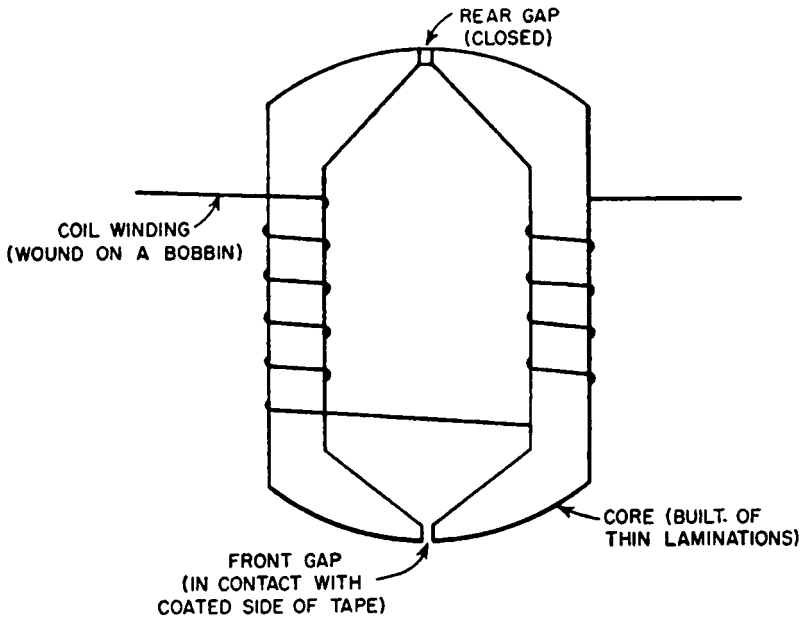

Fig. 6-5. Construction of a tape head.
*Record, playback and erase heads.* A typical tape head, Figure 6-5, consists of a core made of a magnetic material on which is wound a coil of wire. The magnetic material must be of a kind
As you will see from Figure 6-5 the typical laminated head has a core made of two C-shaped sections. When these sections are brought together a narrow gap remains at the front of the head. There is also a gap at the rear, but this is usually closed up. The width of the gap determines the upper limit of frequency response of the head. In most modern recorders the gap is no more than 0.0005 inch wide and in professional-type equipment it is often as little as 0.00015 inch.